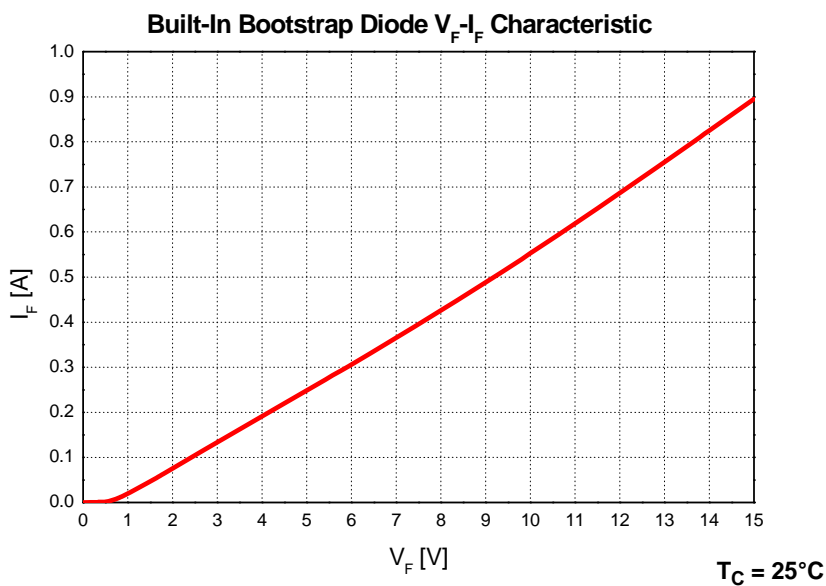

Figure 2. Built-In Bootstrap Diode Characteristics (Typical)
- Built-in bootstrap diode includes around 15 Ω resistance characteristic. Please refer to Figure 2.